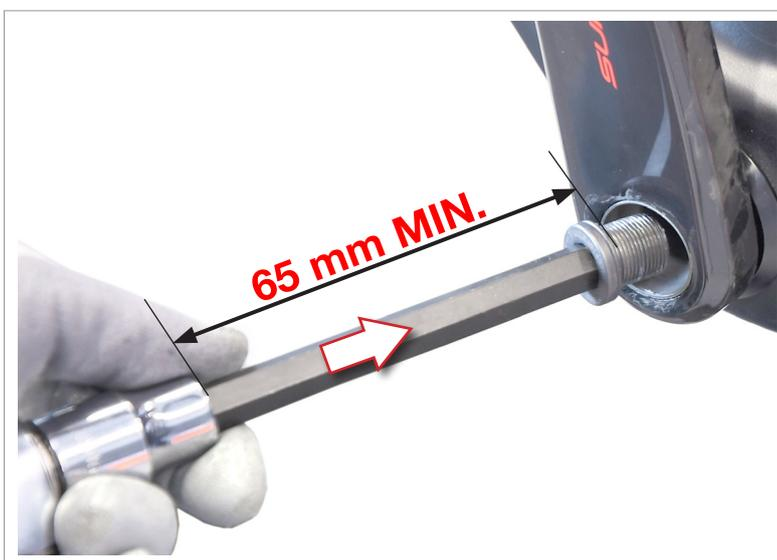

Fig.5
- Using the Campagnolo® UT-BB110 tool or a suitable 10 mm hexagonal insert with a length of at least 65 mm, engage the fastening screw (Fig. 5) in the semi-axle of the left-hand hand crank until it goes through the hole at the inner end of the semi-axle itself. Then engage the thread of the semi-axle of the right-hand hand crank.